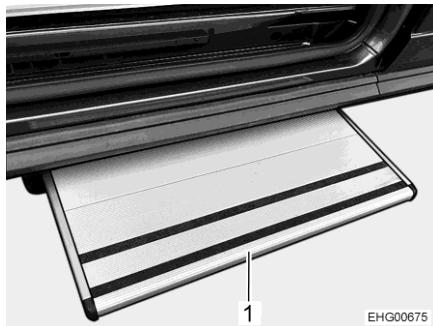

Fig. 2      Entrance step
- Carefully and slowly push in the entrance step (Fig. 2,1) by hand.